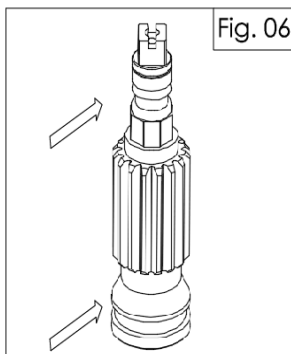

Fig. 06
A) Drive shaft assembly (part NO.23) , figures 06 and 07
- Install top and bottom pinion bearings (20) and (24) and top and bottom pinion O-rings(25) and (19) onto the shaft.
- Grease the outside surface of the drive shaft on top and bottom as shown in figure 06.